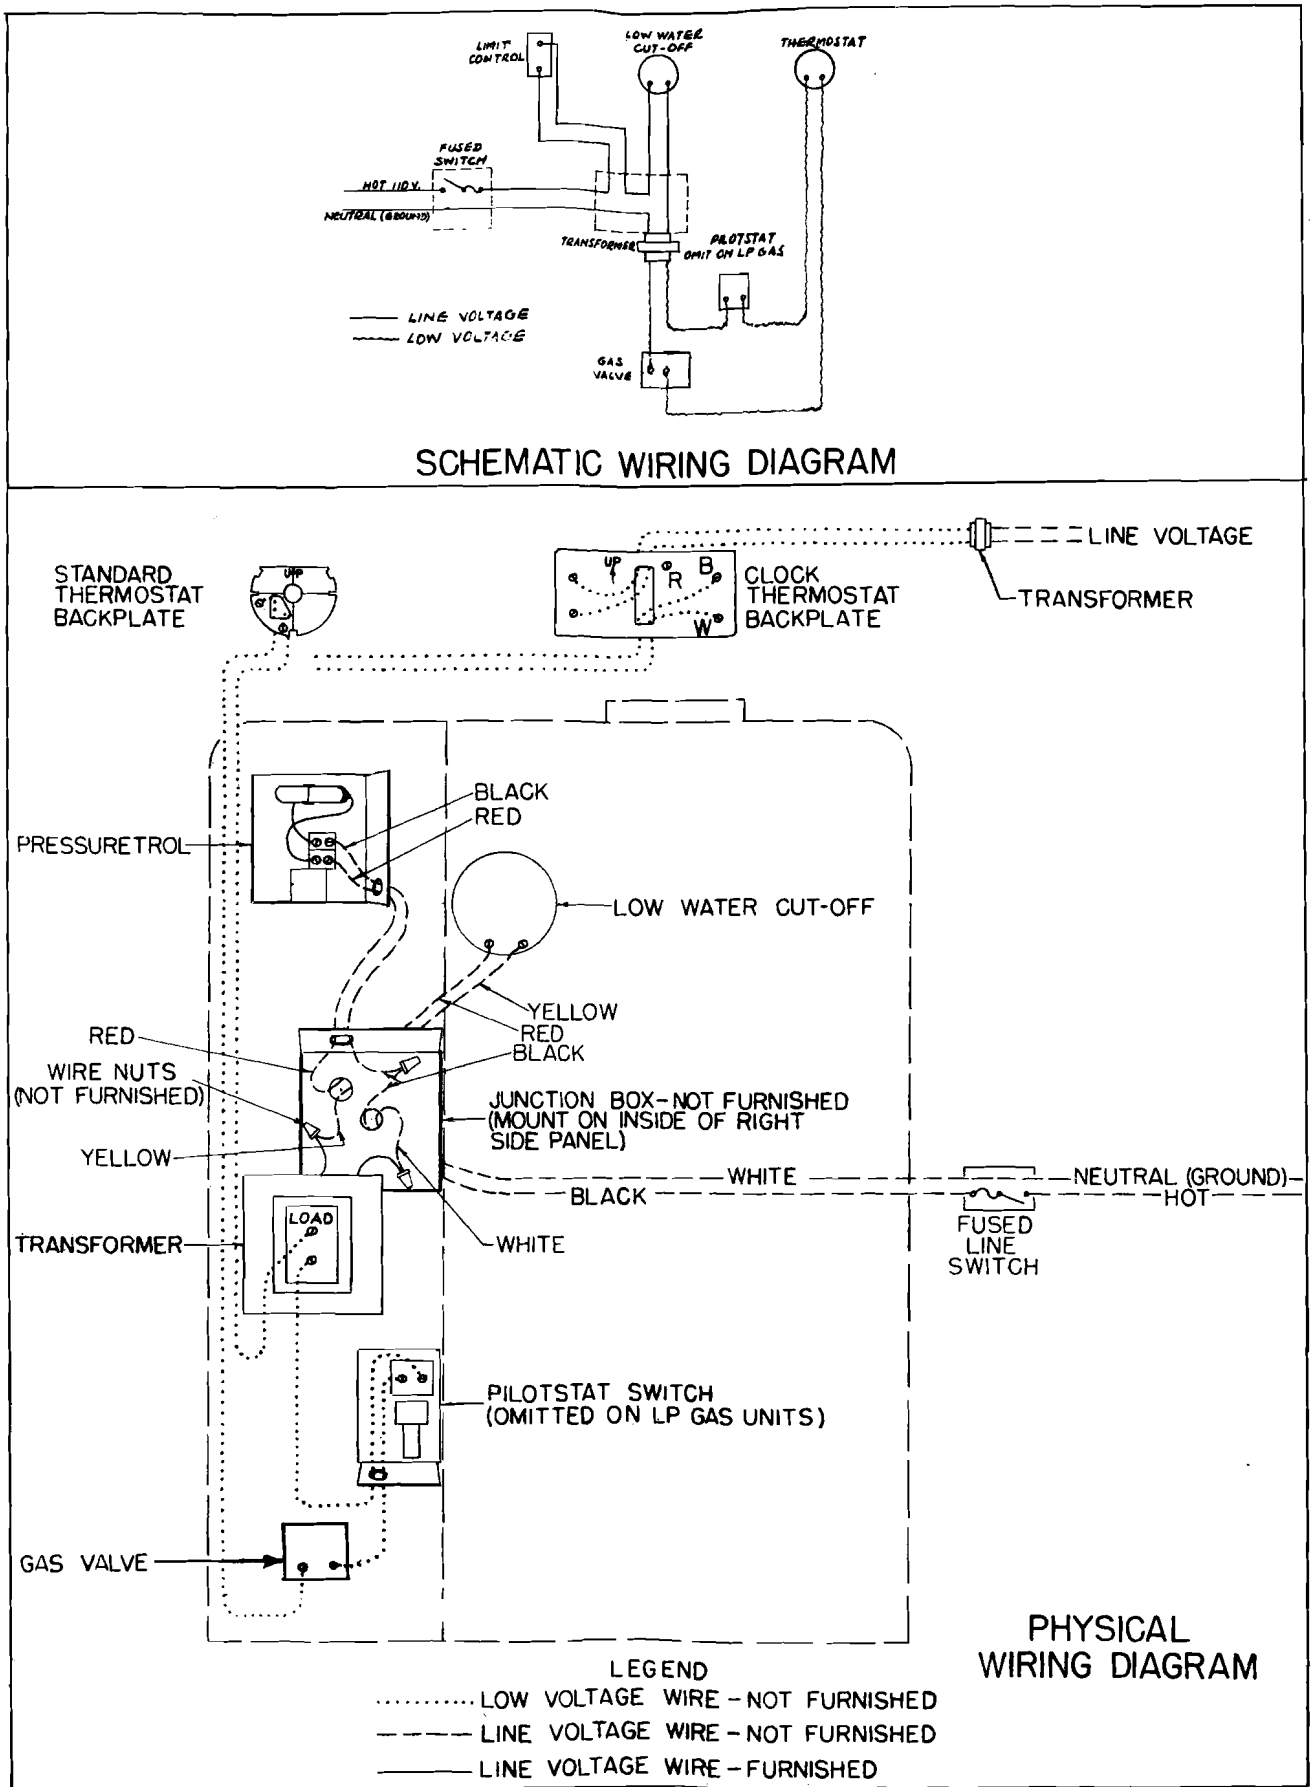

Figure 20. Wiring Diagram for Natural and L.P. Gas-Fired Steam Systems.
7. On steam units (figures 20 and 21) it is necessary to cut or drill an additional 7/8" hole through panel to another knockout on back of junction box in order to bring wires out to the low water cutoff.